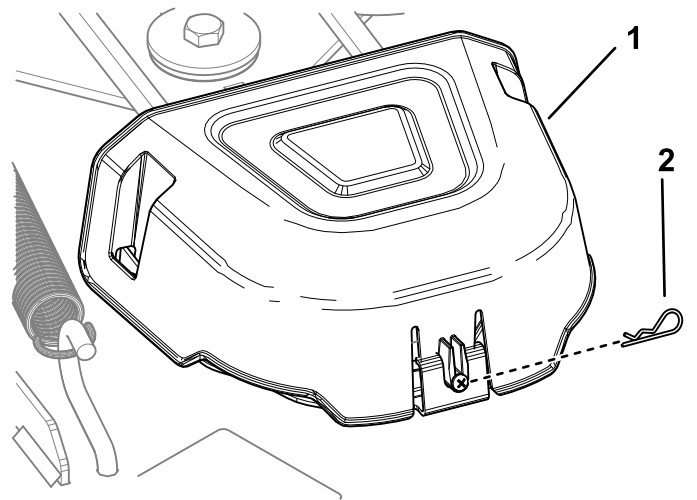

Figure 51
4. Remove the hairpin cotter and push in the tab on the cover to remove the pulley covers (Figure 51).